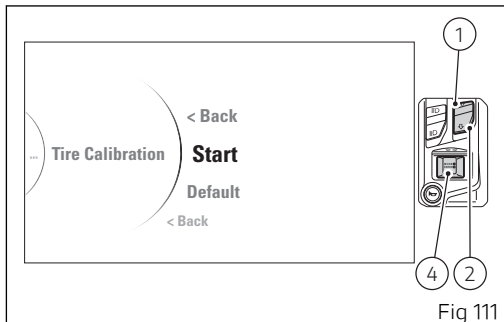

Fig 111
As you enter this function (Fig 111), the instrument panel displays the following indications:
To reset to the default settings, use buttons (1) and (2) to select "Default" (Fig 111) and press button (4). Then, the instrument panel shows "Default Please Wait..." (Fig 115) and after a while "Default ok" (Fig 116) for 2 seconds, then followed by the previous screen.